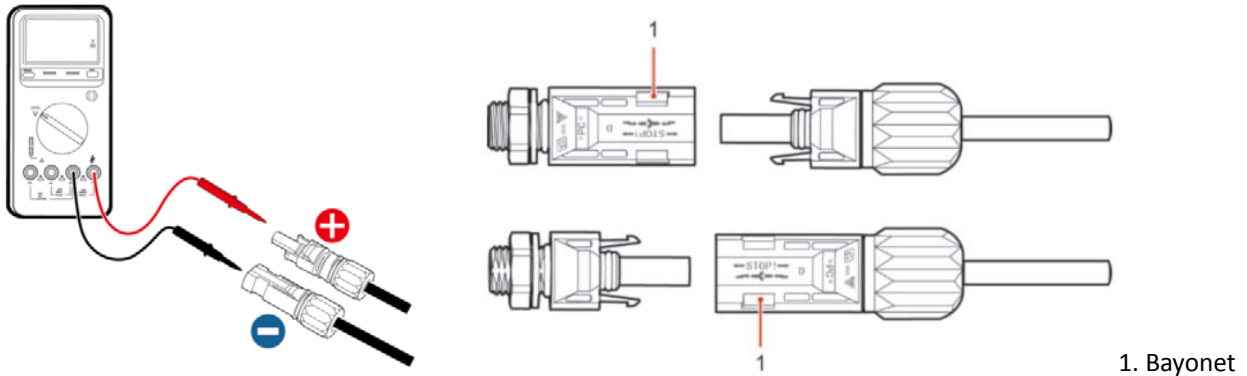

Fig. 9 Connect PV connectors
**Step 3** Make sure the DC voltage of each PV string is less than 600V DC and polarities of PV power cables are correct. Insert the positive and negative connectors into HYD-ES inverter until you hear a "click" sound, as shown in Fig. 9.